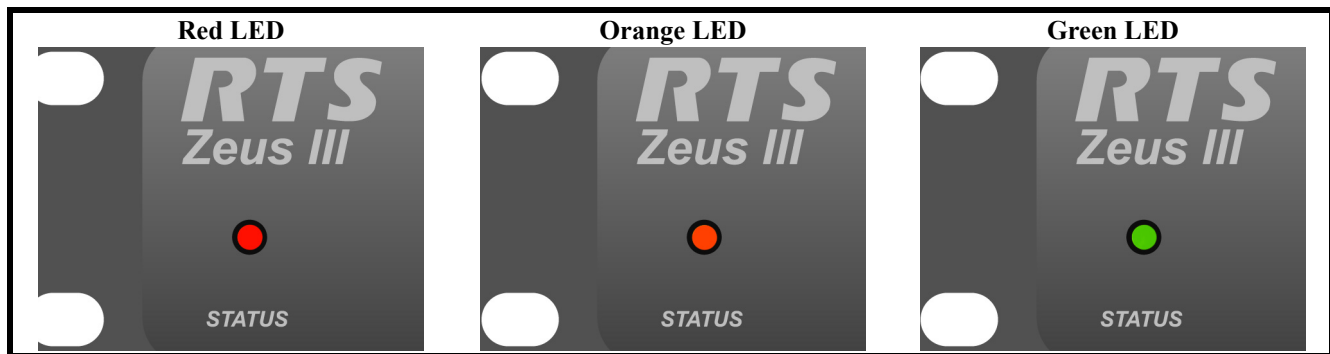

FIGURE 2. Red LED Status, Orange Status, and Green Status Indicator
When the Zeus III powers on each time, the Status LED, located on the front panel (see Figure 2), cycle through a three (3) color sequence as it verifies the Zeus III is working properly. The LED color cycle starts with Red, goes to Orange, and ends with Green.